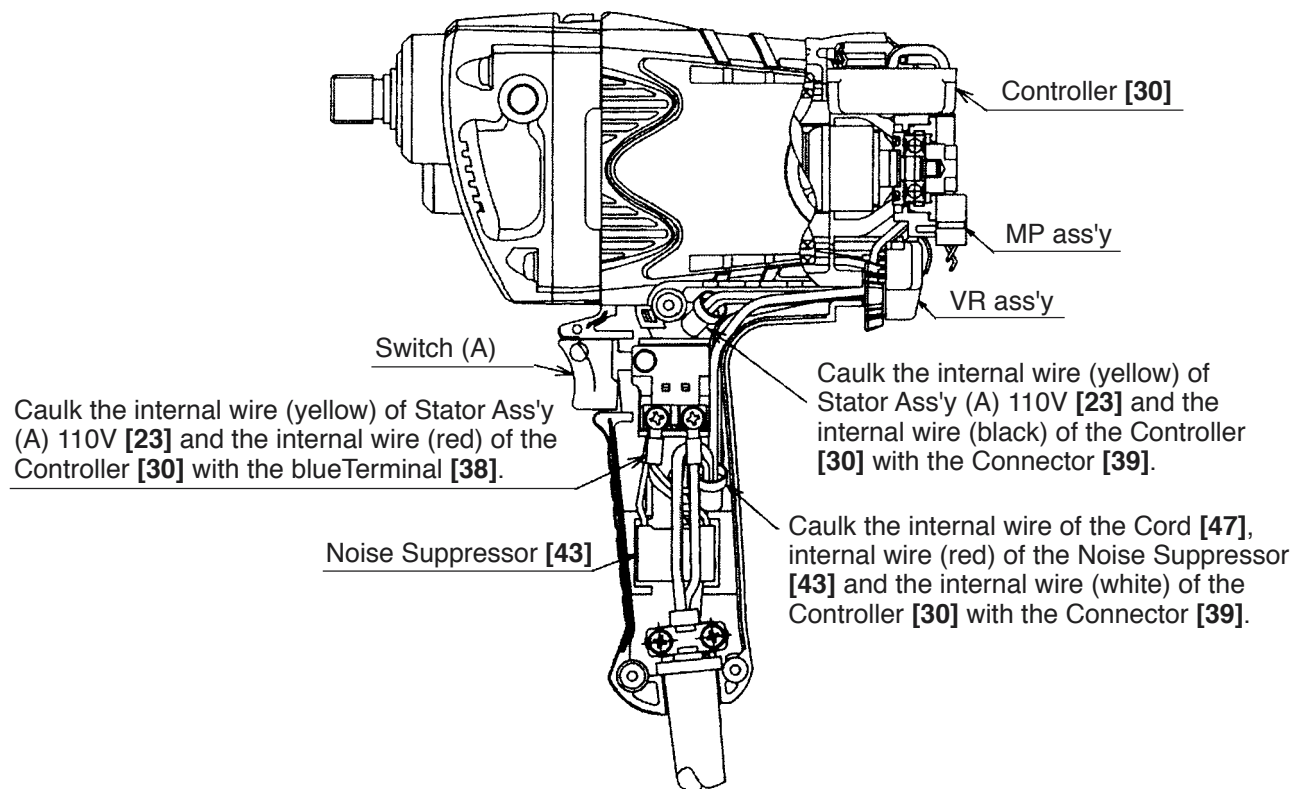
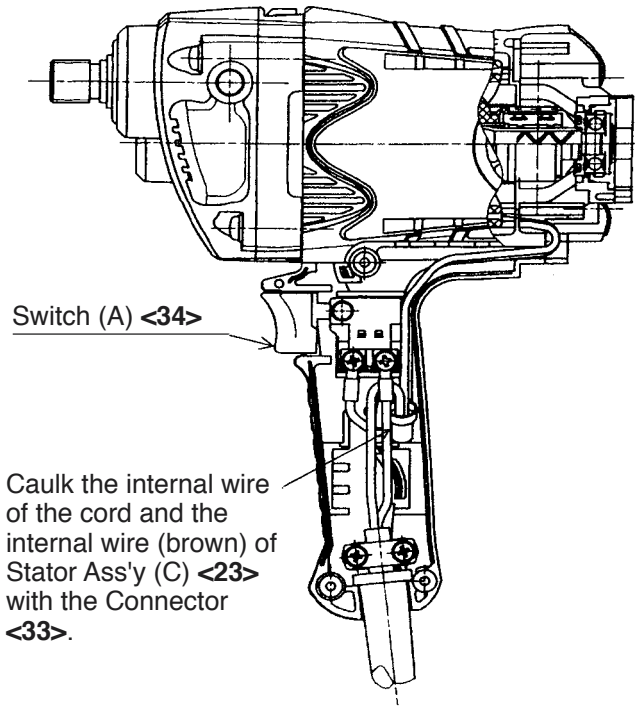

Fig. 17
Fig. 22
- (1) Check that the internal wires are wired and arranged properly as shown in Fig. 17 to Fig. 22.
- (2) Insert each internal wire into the grooves of the Housing Ass'y [27] <26> securely and be careful not to pinch the internal wires when mounting the Handle Cover [35] <30> and the Tail Cover [51] <49>.
- (3) If degradation is found on the grease inside the Gear Cover Ass'y [8] <8> at reassembly, remove the grease and apply 30 g of new grease to the inside of the Gear Cover Ass'y [8] <8>. Applicable grease is Nippeco JF-375 (Code No. 930036). Apply it to the Second Pinion and Gear Set [10] <10>, tooth portion of the Armature [15] <15>, needle bearing of the Inner Cover [12] <12> and the inner circumference of the metal.
- (4) When replacing the Dust Seal [25] <25> and the Ball Bearing 608VVC2PS2L [9] <9>, be careful of the mounting direction of the Dust Seal [25] <25> so that the convex side faces the ball bearing and the concave side faces the commutator. When press-fitting the Ball Bearing 608VVC2PS2L [9] <9>, be careful of the press-fitting load. After press-fitting, check that the Ball Bearing 608VVC2PS2L [9] <9> rotates smoothly. The Dust Seal [25] <25> is an important element to protect the Ball Bearing 608VVC2PS2L [9] <9> from dust. Be sure to mount the new Ball Bearing 608VVC2PS2L [9] <9> after disassembly.